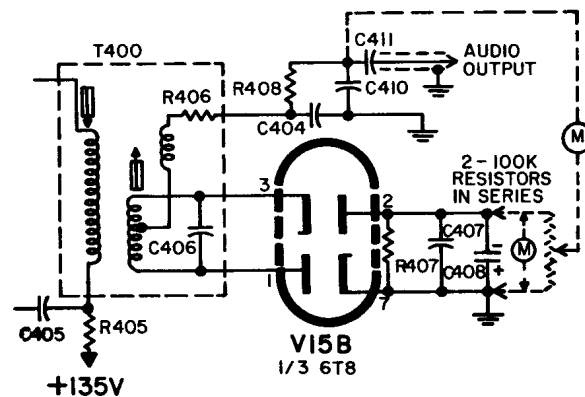

FIG. 5 AUDIO ALIGNMENT CONNECTION
5. Tune the top core of T200 for minimum deflection on the scope at Test Point XIII. (See Note below, Fig. 5.)
2. Connect two matched 100,000 ohm resistors in series between Pin 2 of V15B (6T8) and the chassis as shown in Figure 5.